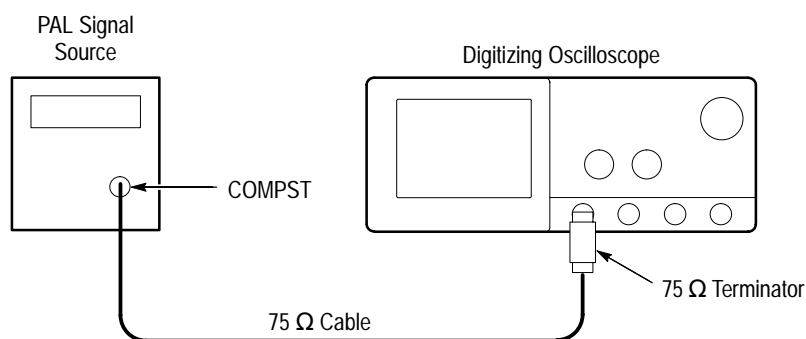

Figure 1–25: Jitter Test Hookup
- a. Set up equipment for Jitter Test. See Figure 1–25.
- b. CHECK that the oscilloscope lights up its front panel **TRIG'D** LED and it displays the waveform on screen. See Figure 1–26.